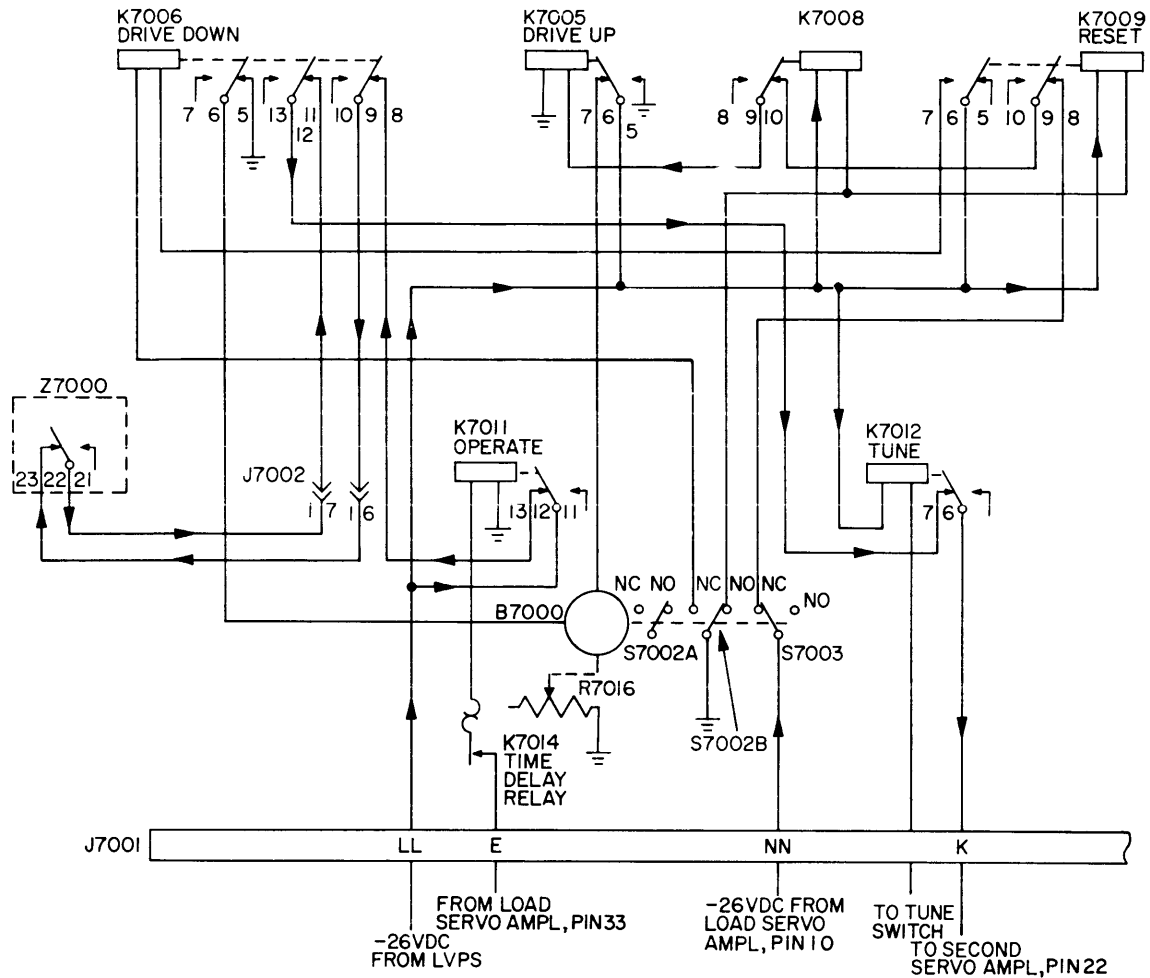

Figure 4-18. Simplified Schematic of RF Drive Operating Point Condition
(3) OPERATING RF DRIVE CONDITION (refer to figure 4-18) - When the drive down relay returns to the deenergized position, the -26 vdc is able to pass through the contacts 12 and 13 of K7011 in the operate position to contacts 8 and 9 of the drive down relay. It is then applied to contacts 22 and 23 in Z7000 and returns to contacts 11